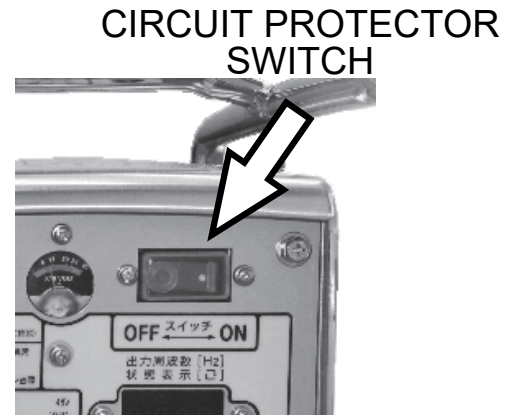

Figure 3. Circuit Protector Switch
3. Turn on the inverter circuit protector switch (Figure 3). Make sure that the cooling fan starts and the green LED lamp lights up (normal voltage range). If the green or orange LED lamp is blinking or the red LED is lighted, some abnormality has been detected in the power source. Stop using immediately and correct the cause of abnormality before operation.